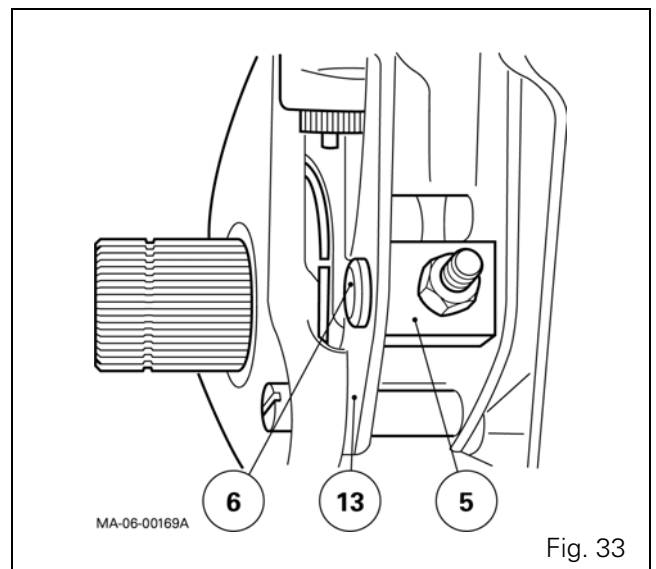

Fig. 33
NOTE: The plate (5) is rectangular. It must be positioned horizontally, along its length, so that the shaft (6) is correctly positioned in the link (13) (Fig. 33).